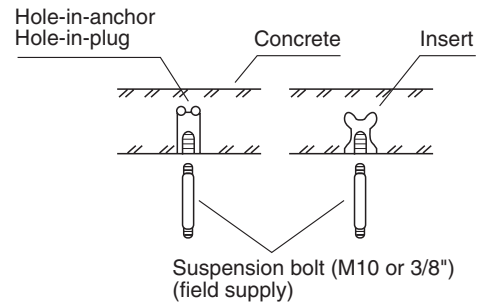

Fig. 1-85
- (2) Drill holes at the 4 points indicated on the full-scale diagram.
- (3) Depending on the ceiling type:
- (a) Insert suspension bolts as shown in Fig. 1-85.